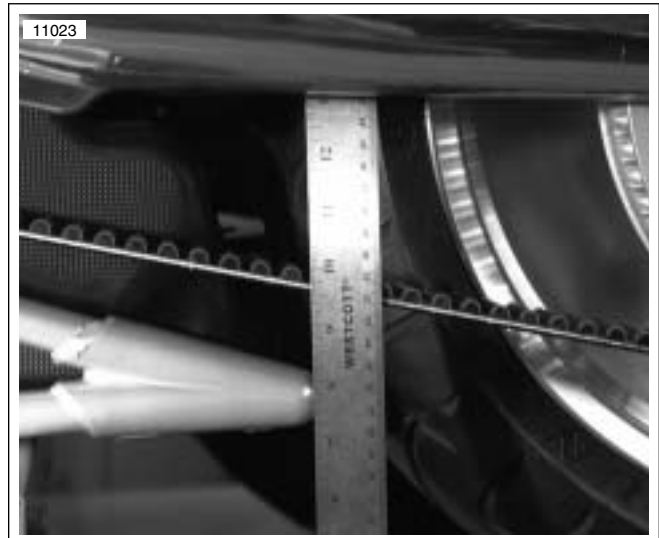

Figure 2-23. Using Ruler to Check Belt Deflection (typical)
2. See Figure 2-23. Place a ruler halfway between transmission and rear sprocket as shown.